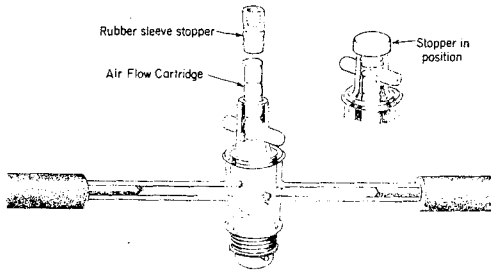

Fig. 3—Placing Airflow Cartridge
- (7) An airflow cartridge should be crushed and placed in the chamber of the stopcock (Fig. 3). The rubber stopper then should be replaced.